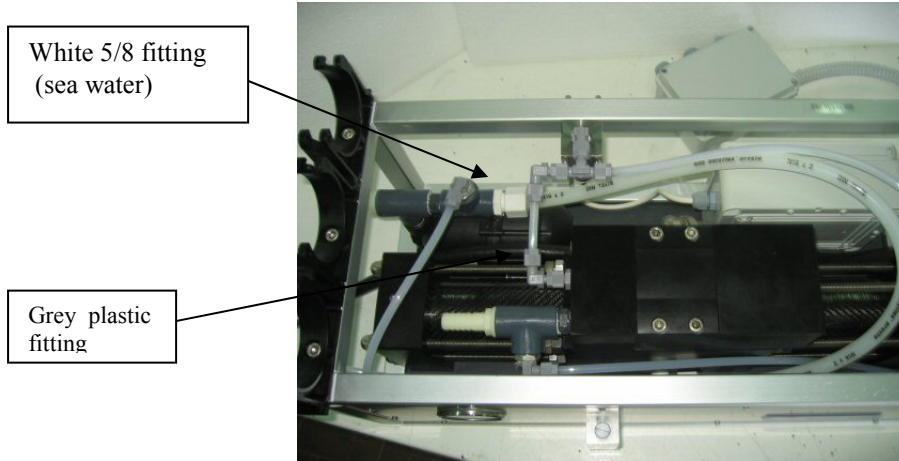

Fig. 6 – Top ERS view
- 11) Screw the 8x6 grey plastic fitting on the left side of the valve to connect it to the reset valve (Fig. 6);